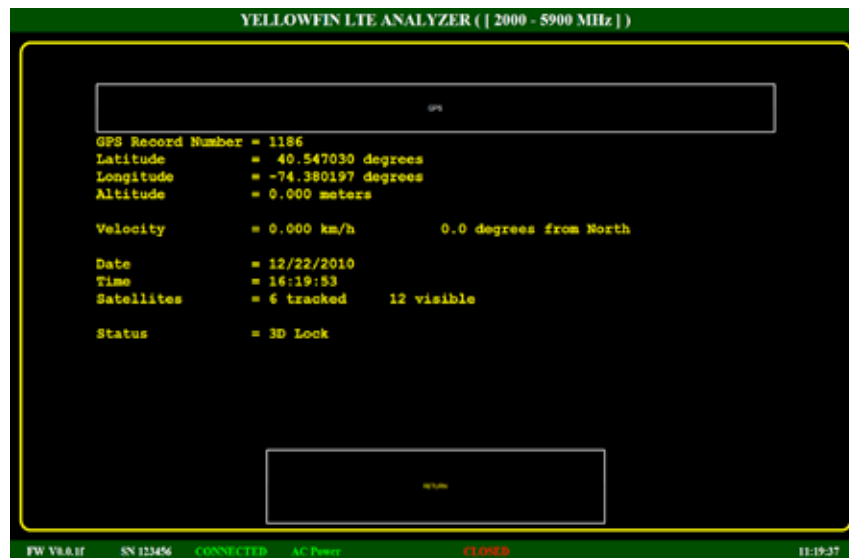

Figure 4. GPS Information Screen
1. Tap the “YellowFin LTE” icon on the Windows Desktop to start the Application Software and open the Main Screen (MS) (as described below)
3. Wait long enough for the GPS receiver to synchronize to satellite signal(s) indicated by the display of the “**Lock**” attribute to the right of the “**Status**” field in Figure 4 below.
Selecting this button will display the GPS Information screen seen in Figure 4: